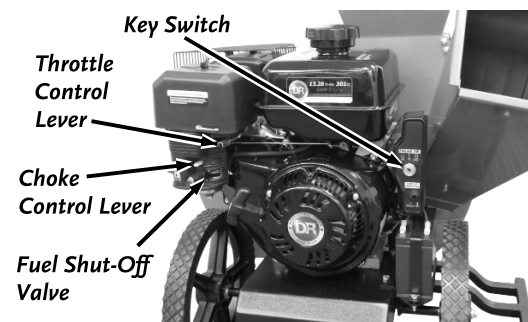

Figure 9b Electric Start
7. **Electric Start** - Turn the Key to START until the Engine starts and then release (**Figure 9b**). The Key will snap back when released and the Engine will continue to run.